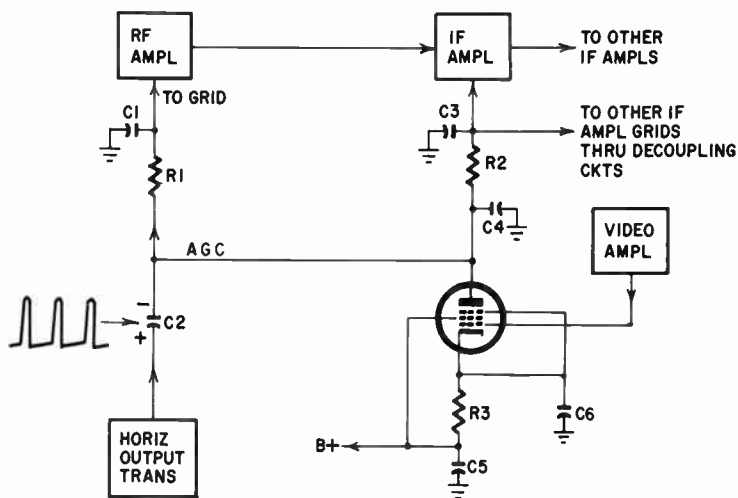

Fig. 709. Keyed-age circuit. Blocks are used to indicate associated stages.
The keyed *agc* circuit of Fig. 709 makes use of a pentode keyer tube which receives two inputs: (1) A video signal is fed to the control grid from the video amplifier. This is the signal we sample to get our signal information; (2) Sharp positive flyback pulses are fed to the plate from the horizontal output transformer.
A closer look at Fig. 709 shows there is no B-plus on the plate of the keyer tube. The only source of positive voltage is the horizontal
The circuit of Fig. 709 has an *agc* feed to the rf amplifier stage, with R1 and C1 serving as decoupler and filter. The *agc* line that feeds the if stages is filtered and decoupled by C3, R2 and C4. A positive voltage, usually in the 100 to 300-volt range, is fed to the keyer cathode. This voltage establishes the grid bias voltage when the tube conducts. Although the video signal to the grid is positive, the cathode is *more positive*. Therefore, the grid is biased negatively with respect to the cathode.